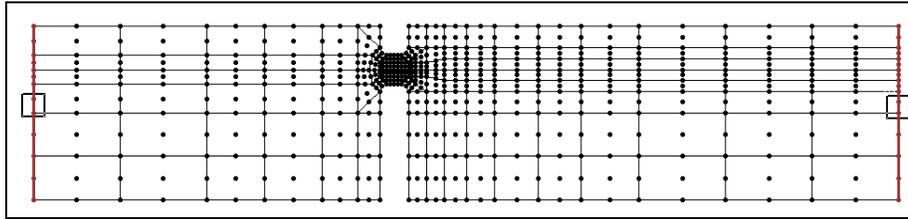

Figure 2. Location of the boundary condition nodes.
A steady state model such as this can only have constant boundary conditions. The flow and head boundary conditions will be defined at nodestrings on opposite sides of the model as shown in Figure 2. To create the two boundary nodestrings:
1. Choose the *Select Nodes* tool from the *Toolbox*. An icon appears at the center of each node, as shown in Figure 2.